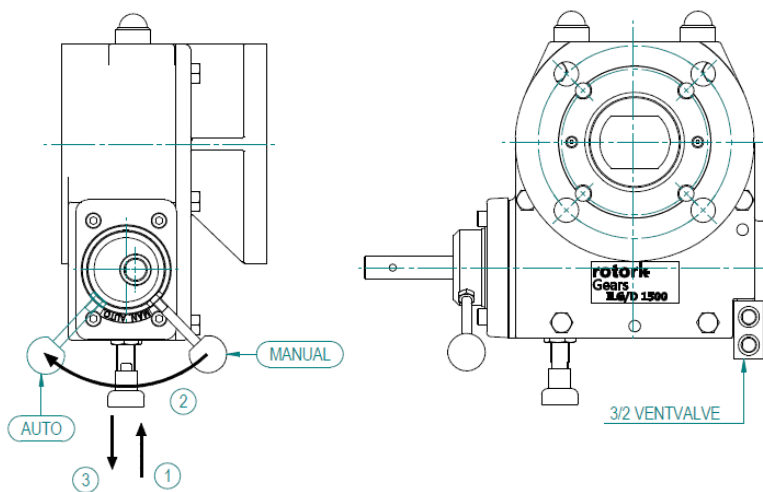

Figure 8: ILG/D gearbox
2. Prior to manual operation, the gearbox has to be put into manual mode. To achieve this, refer to figure 8 and follow the next points :
- i. Pull the knob outwards (3). Secure the knob in this position.
- ii. Turn the handle counter clockwise (2) and release the knob. Continue turning the handle until the knob falls back into locking position (1).